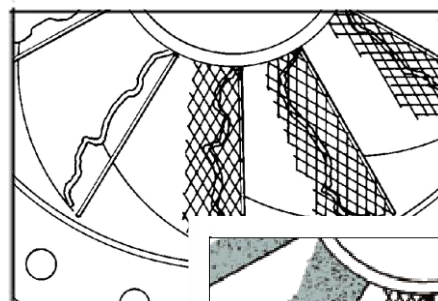

Figure 6
6. Next, rebuild the missing metal from the blades by welding a 3/8" rod for a "leading edge", and then tack weld expandable metal from the leading edge to the existing metal surface for reinforcement (Figure 6).